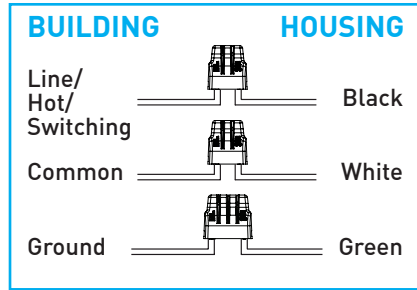

Fig.13
Feed structured building wires through knockout, secure to corresponding connector "Fig.13" and tighten strain relief.
**Quick connectors** provided for line / mains voltage connection: black (hot), white (common) and green (ground) "Fig.13".